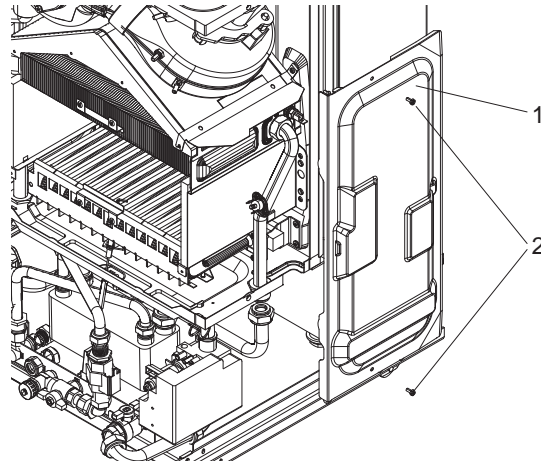

Fig. 28b
8.7.6 Locate and remove the 2 screws (2) securing the air chamber right side panel (1), pull the panel towards you before lifting and disengaging (see fig. 28b).